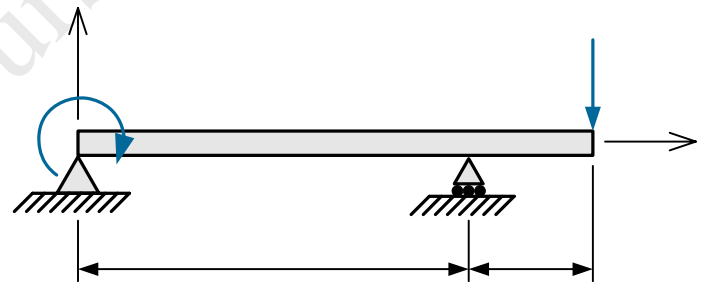

Figure 4
4. A steel beam with a total length of 8 m is loaded as illustrated by Figure 4. A clockwise moment of 18 kN·m (M_0) is applied at support A while a 15 kN vertical load (P) acts on the overhang at C (25 pts).